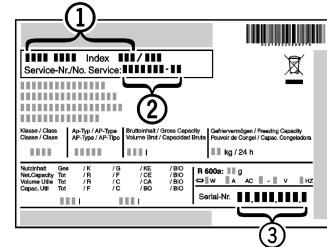

Fig. 13
- Notify a qualified service provider, specifying the fault, appliance designation *Fig. 13 (1)*, service no. *Fig. 13 (2)* and serial *Fig. 13 (3)* no.